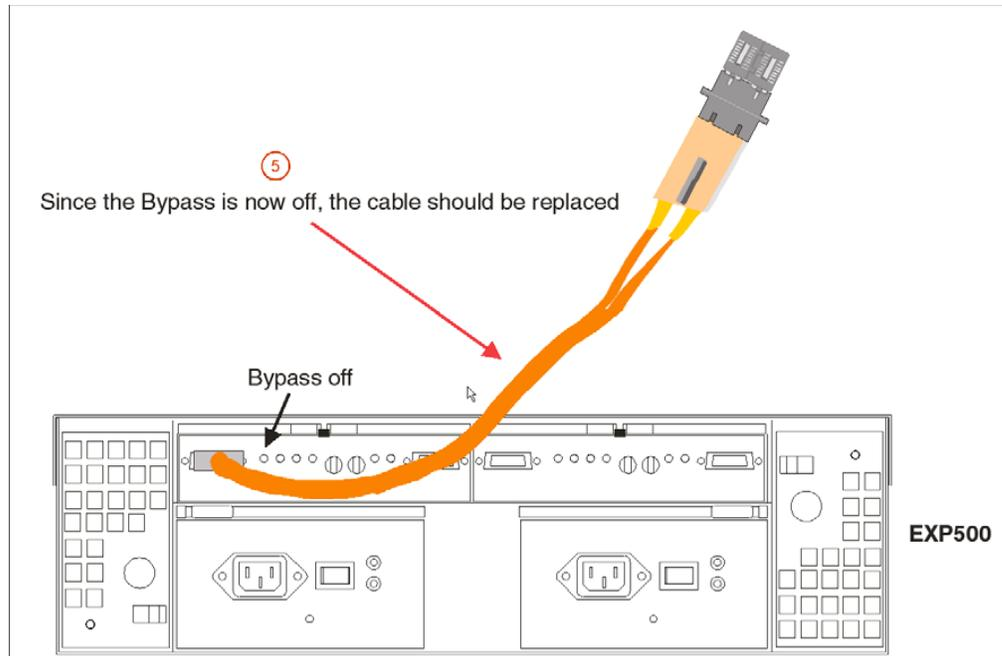

Figure 150. Insert Wrap Plug into Element
- 5. As was shown in step 4, insert the wrap plug into the element from which the cable was removed in step 3. See Figure 150 on page 313.